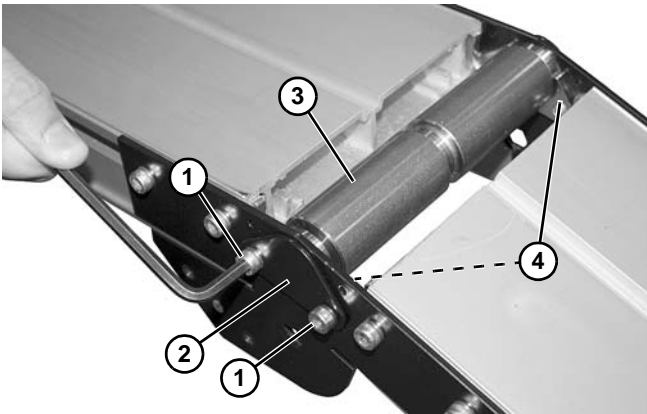

Figure 119
3. Remove two screws (Figure 119, item 1) and remove bearing cover (Figure 119, item 2) on both sides of knuckle.
4. Slide idler pulley (Figure 119, item 3) to one side of the conveyor, remove bearing housings (Figure 119, item 4), and then remove idler pulley from knuckle plates.